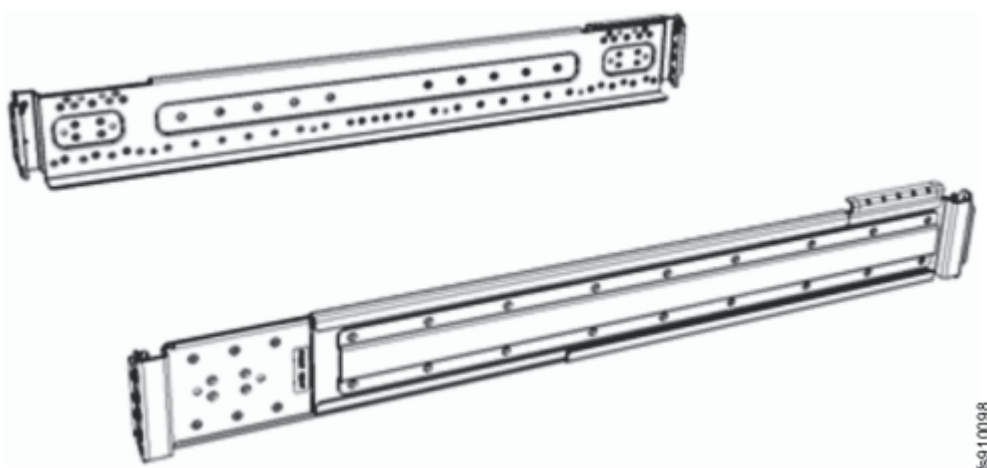

Figure 17. ESS 3000 system support rails
1. Locate the ESS 3000 system rails (Figure 17 on page 42).